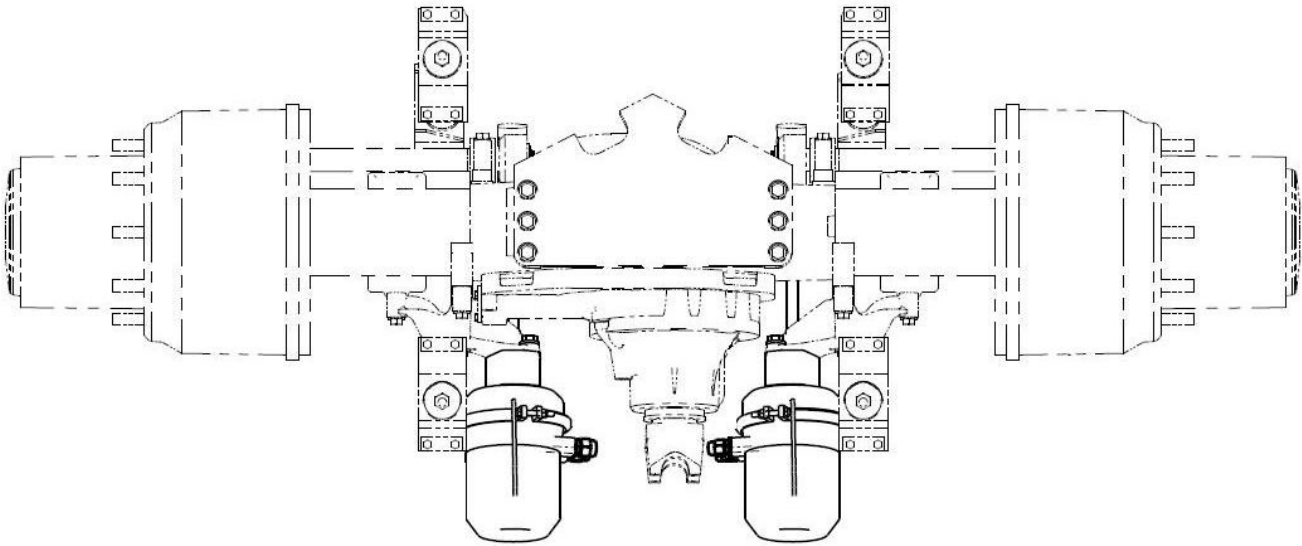

FIGURE 1: REAR AXLE
3. Locate rear axle brake chambers as shown per Figure 1.